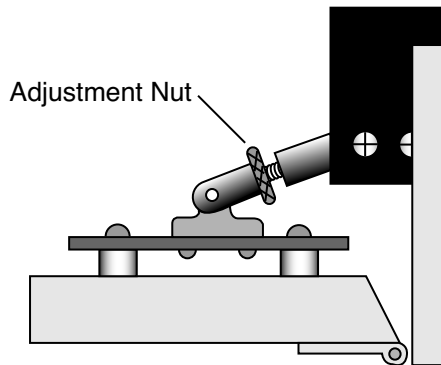

Figure 28-8. Turn the adjustment nut clockwise to remove.
a) Unlatch the handle, and unscrew the knurled leaf chamber adjustment nut (turn clockwise) until it is free of the handle (Figure 28-8).